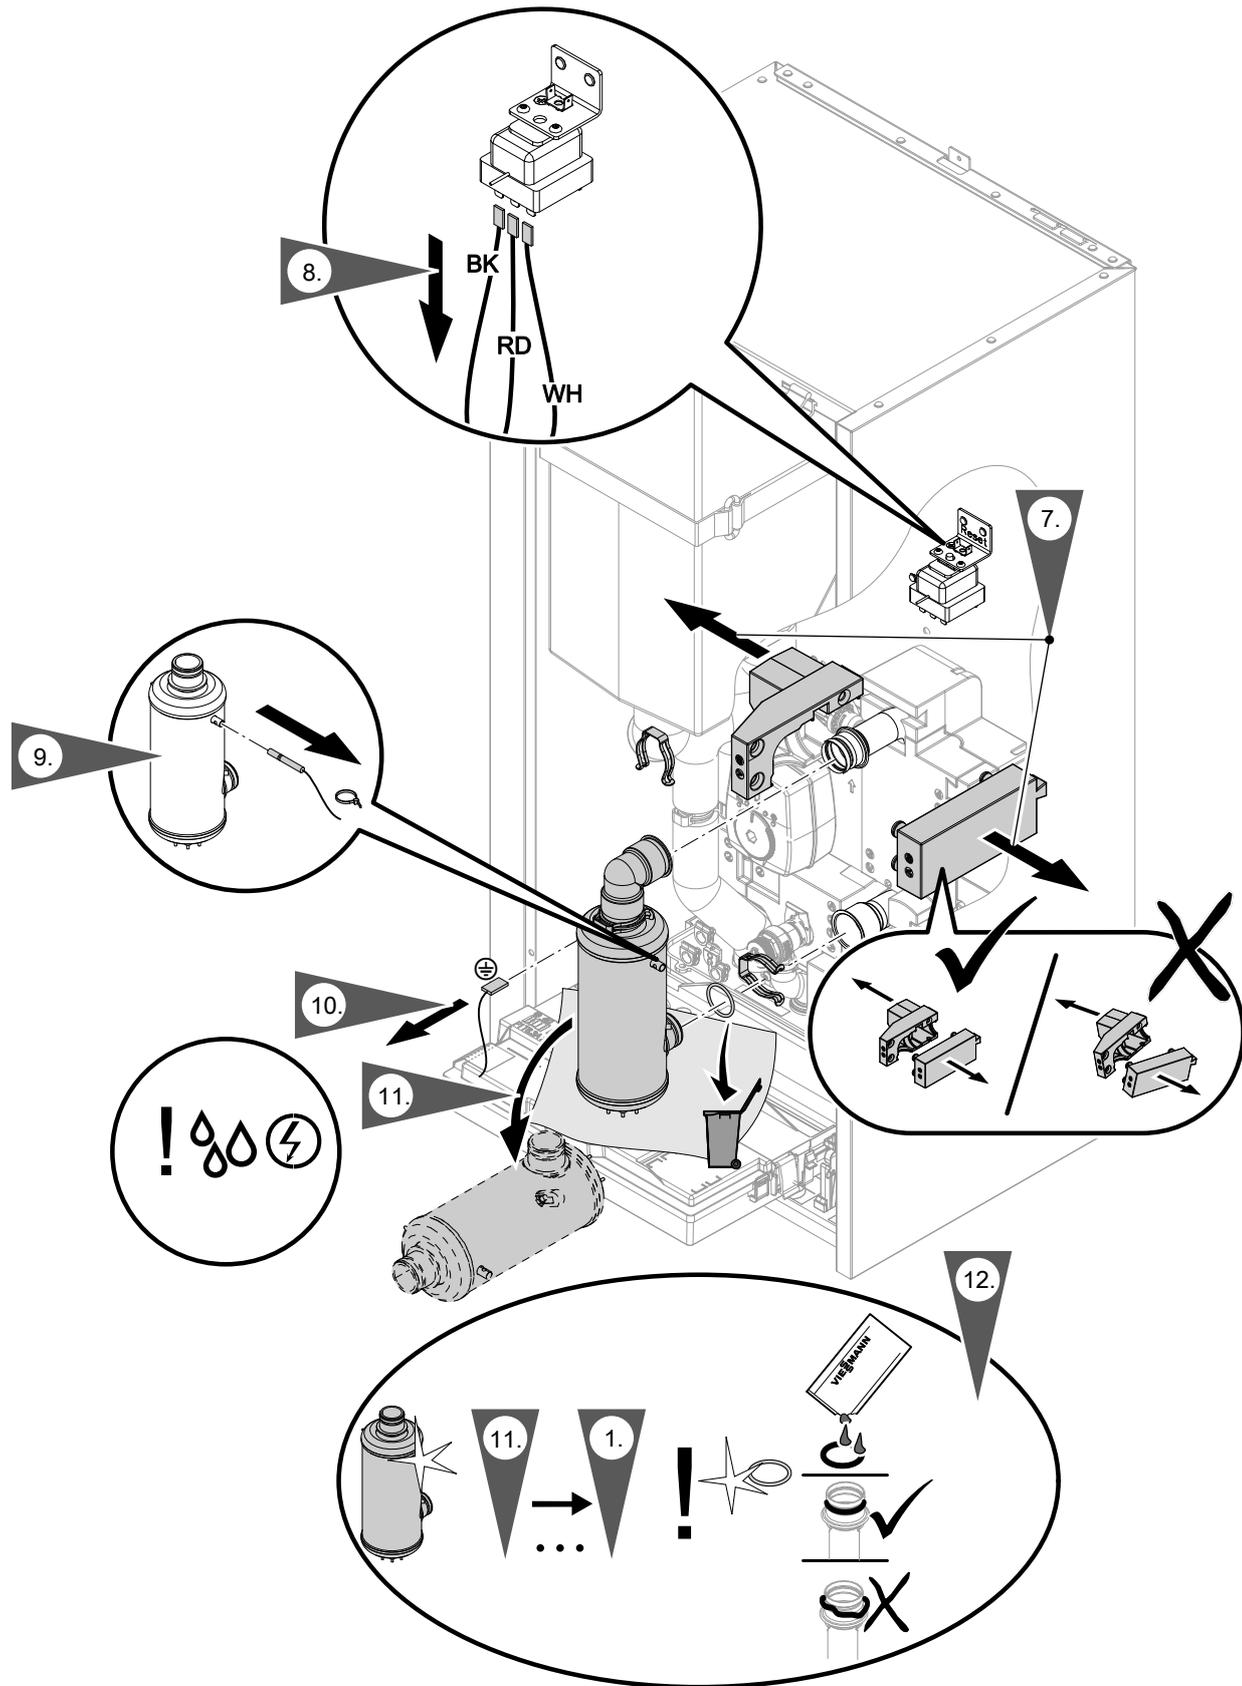

Fig. 78
- Temperature sensor on the instantaneous heating water heater and electrical leads on the high limit safety cut-out: See Fig. 78.